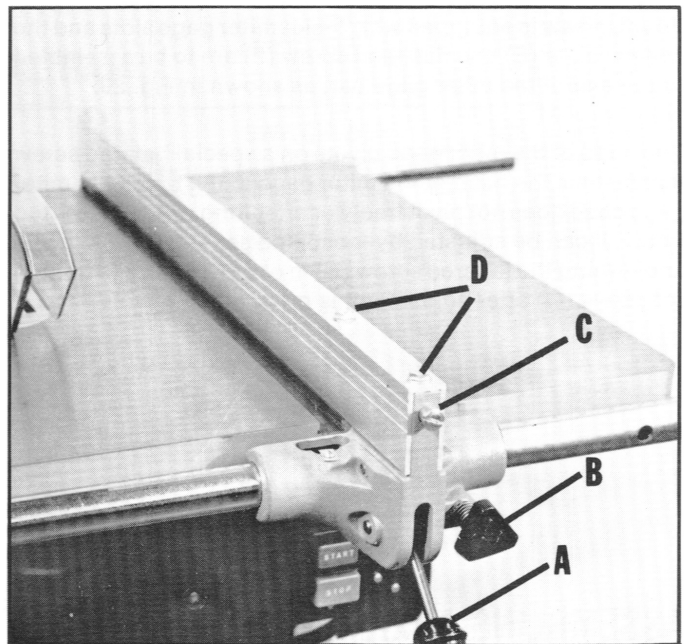

Fig. 26
To move the rip fence, raise the clamp lever (A) Fig. 26, as far as it will go and move the fence to the desired position on the table. For fine movement of the rip fence, raise the clamp lever, (A) Fig. 26, as far as it will go and push in and turn the "micro-set" knob (B).
When the clamp lever (A) Fig. 26, is all the way down, clamping action on the front and rear guide rails should be equal. If clamping action on the rear guide rail is more or less than clamping action on the front guide rail, an adjustment of the rear clamp hook is made by turning screw (C) Fig. 26. Turning the screw (C) clockwise will increase tension and turning it counterclockwise will decrease tension. When lowering clamp lever (A) slowly, you will notice clamp action on front guide rail first, and as lever is moved downward to its lowest position, clamp action will take place on rear guide rail.
Your machine is shipped from the factory with the table adjusted so the miter gage slots are parallel to the saw blade. The fence, therefore, should be adjusted so it is parallel to the miter gage slots. To check the rip fence, set it at one of the miter gage slots and tighten the clamp lever (A) Fig. 26. If an adjustment is necessary, loosen the two front cap screws (D) Fig. 26, and raise the clamp lever (A). Move the rear end of the fence body to one side or the other until it is parallel with the miter gage slot. Then lock the clamp lever (A), by pushing it down, and tighten the cap screws (D).